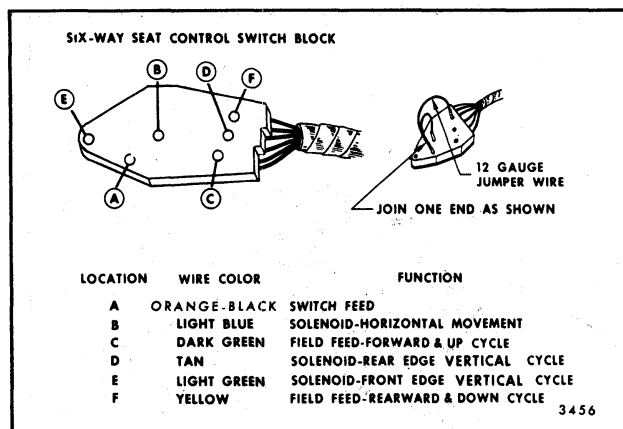

Fig. 10-24-Six-Way Seat Switch Block in Armrest
2. On bodies with switch in armrest (Fig. 10-24), proceed as follows: